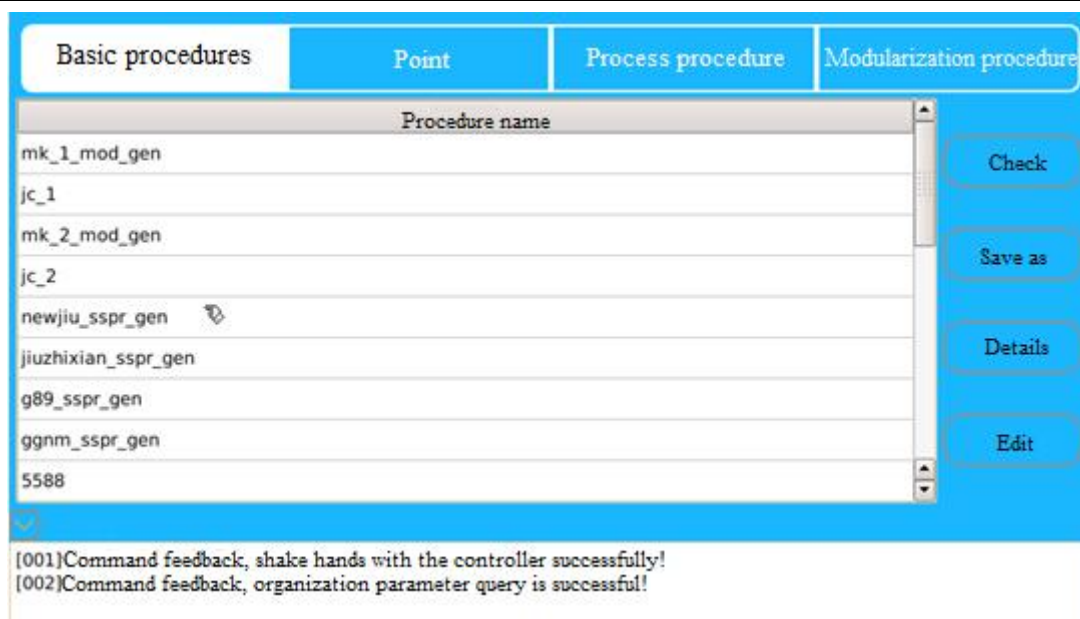

Figure 2.6 Composition Structure of “Procedure Management”
(1) **Procedure management:** Here is the place where “completed procedure” is stored; all the procedures successfully created and completely “saved” will be generated here. The procedure management includes four parts of “basic procedures”, “points”, “process procedures” and “modularization procedures” (as shown in Fig. 2.6), wherein the “process procedure” contains two procedures of “nine-axis spray painting” and “ordinary spray painting”. At the same time, the generated “procedures” and “points” can be subjected to operations such as “querying”, “modifying” and “checking”.